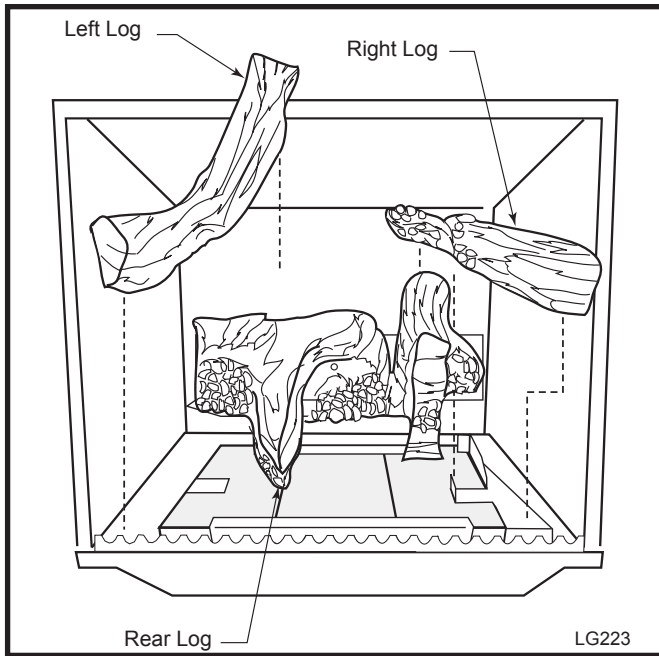

Fig. 15 Install rear, left and right logs.
2. Install the rear log by placing it on the sheet metal shelf at the back of the firebox. (Fig. 15) The log should touch the back wall of the firebox and be centered.
3. Install the right log by placing it on the sheet metal bracket behind the grate with the right end of the log, “the thicker end”, touching the grate and the right side the firebox. Swing the left end of the log “painted end”, backward until it comes in contact with the branch on the rear log. Set the log down over the bent tab on the right. When the log is in place it rests on the tab mentioned earlier and the tip of it comes in contact with the branch on the rear log. (Fig. 15)